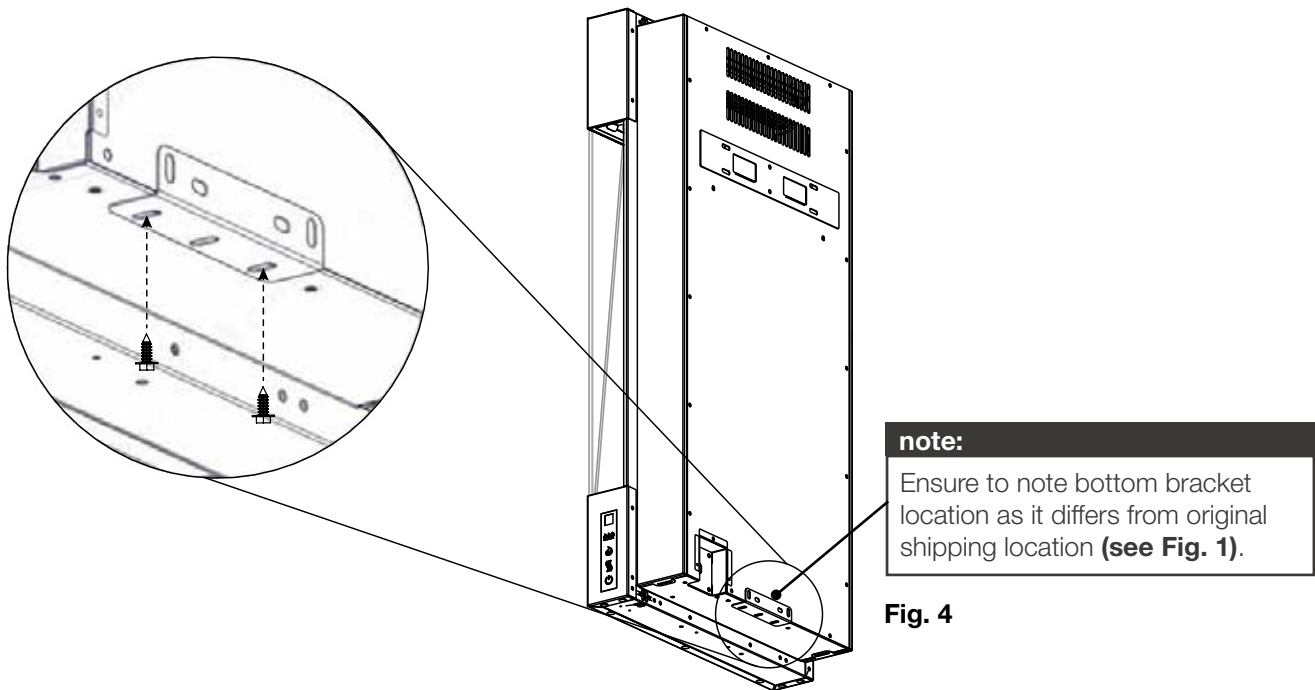

Fig. 4
9. Secure the appliance to the bottom bracket using the screws previously removed in Step 3 (**Fig. 4**).